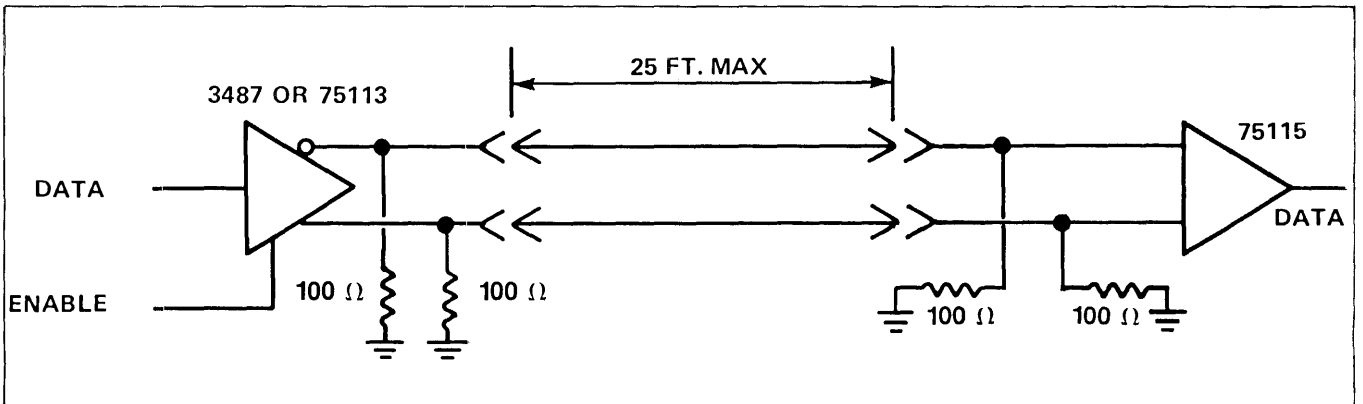

Figure 4-14. Differential Line Drivers and Receivers
13. +, - *WRITE DATA*. *WRITE DATA* is a NRZ serial data signal synchronous with *WRITE CLOCK*. *WRITE DATA* is received by an RS422 type differential line receiver as shown in Figure 4-14. The DC characteristics are listed in Table 4-11. This line should be terminated at the drive end.
14. +, - *WRITE CLOCK*. This signal is switch selectable. It can be a square wave signal from the controller which is phase locked to the *WRITE DATA*, or if the switch is enabled, it can be a reference signal from the drive to the controller to provide clocking and synchronization for *WRITE DATA*. The controller should be designed so that *WRITE DATA* is stable at the drive connector during the negative transition of *WRITE CLOCK*. *WRITE CLOCK* is received by an RS422 type differential line receiver, as shown in Figure 4-14. The DC characteristics are listed in Table 4-11. These lines should be terminated at the drive end. If long cables are used, cable delays must be considered.
15. +, - *READ/REFERENCE CLOCK*. This square wave signal provides clocking and synchronization for reading and writing data. It is derived from either the servo clock or the VFO synchronized to the *READ DATA* signal. It is driven by an RS422 type differential driver, as shown in Figure 4-14. The DC characteristics are listed in Table 4-12. These lines should be terminated at the controller end.
16. +, - *READ DATA*. This serial NRZ signal is used to transmit data from the drive to the controller. This output is valid 10 microseconds after *READ GATE* is enabled. It is driven by an RS422 type differential driver, as shown in Figure 4-14. The DC characteristics are listed in Table 4-12. These lines should be terminated at the controller end.